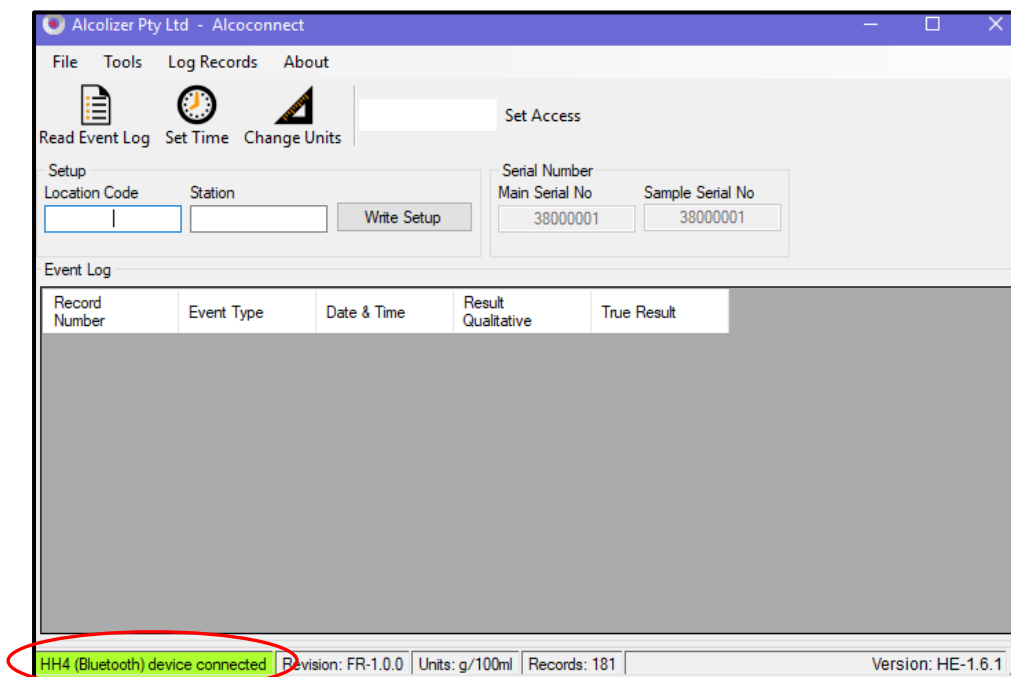

Figure 60 - Read Event Log Window
- The *Read Event Log* window will be displayed (Refer to Figure 60).
- A successful connection between the HH4 and the computer will be shown by a green segment on the *Read Event Log* window (Refer to Figure 60).